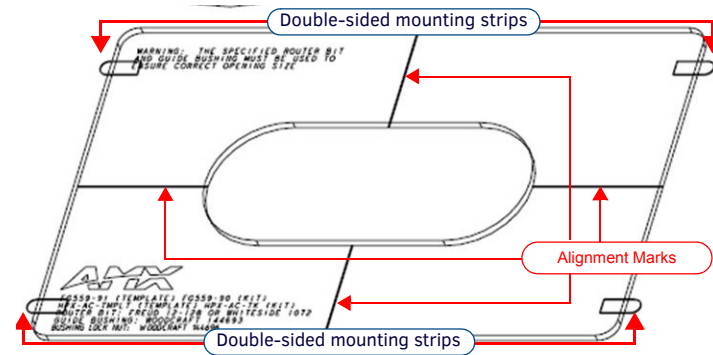

FIG. 3 HPX-AC-T ROUTER TEMPLATE
- Apply mounting strips or other double sided tape to the bottom surface of the router template, making sure that the rounded edges of the mounting strips protrude slightly beyond the edges of the template (see FIG. 3).
- Use the alignment marks scribed on the template to align the template properly on the mounting surface (FIG. 3).